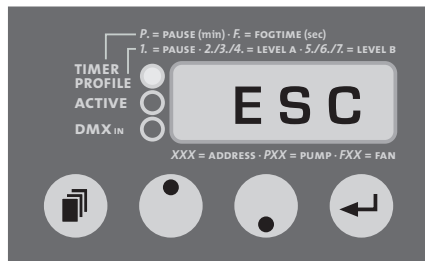

Fig. 9: Quit the profile
- To leave the HDCS menu or quit the Profile, first press the Mode button until „ESC“ appears on the display (Fig. 9). Then press the Enter button [16] once to return to the main menu.